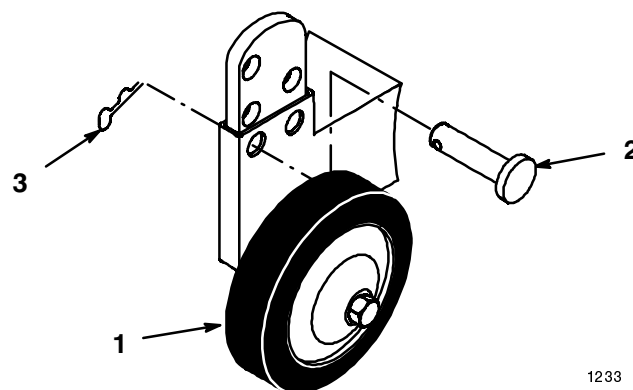

Figure 6
2. Remove hairpin cotter and pin to change hole location (Fig. 6).
3. Select a hole position so the gage wheel is $\frac{3}{8}$ " (9.5 mm) off the ground for the height-of-cut to be used (Fig. 6).